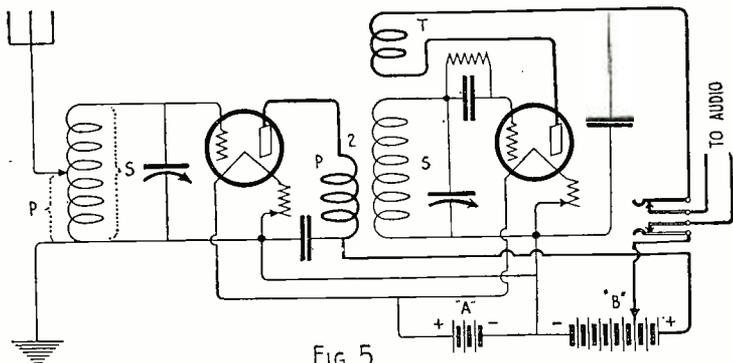

FIG. 5
The Teledyne is illustrated in Fig. 5. It is dug from out the limbo of forgotten things and dusted off for popular view that it might be compared with some of the more modern posterity. It differs but little from the basic circuit, which I venture will be a surprise to some. The elimination of oscillation in the R. F. tube is accomplished mainly by reducing the primary turns (2) sufficiently. The circuit needs no discussion.
On the left is shown the Teledyne receiver, the circuit of which is shown in Fig. 5 above, to which is added two stages of audio frequency amplification. Notice that the inductances are at right angles in order to prevent any inductive effects.